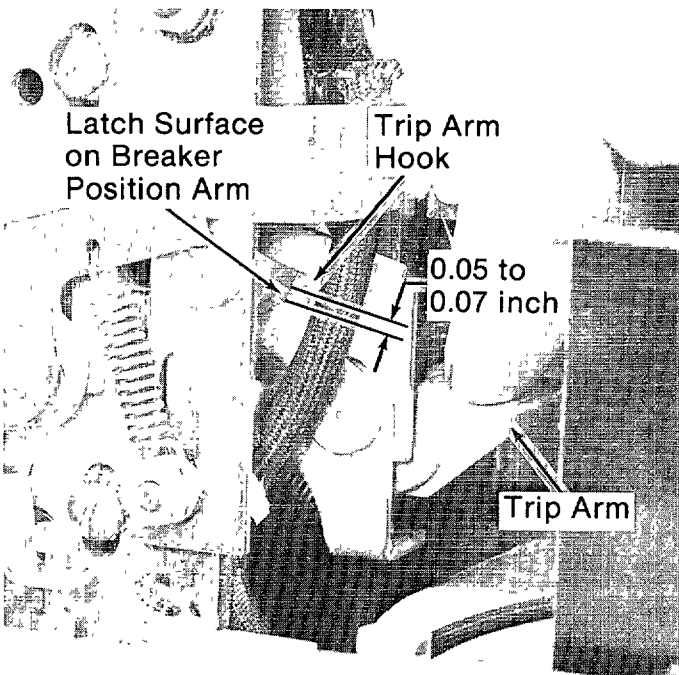

Fig. 6. Trip arm hook clearance.
8. To check trip arm hook clearance, push trip arm down, Fig. 6, and observe the gap as the hook passes the latch on the breaker position arm. The gap should be 0.05 to 0.07 inch. If the gap is incorrect, grasp the unit as shown in